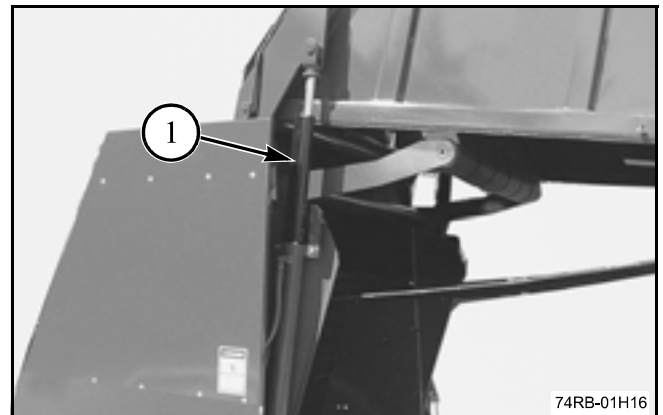

FIG. 4
FIG. 4: When the tailgate is raised for any maintenance or service work, install both tailgate cylinder stops (1) to prevent the tailgate from being lowered. The tailgate can only be lowered when the tailgate cylinder stops are removed.